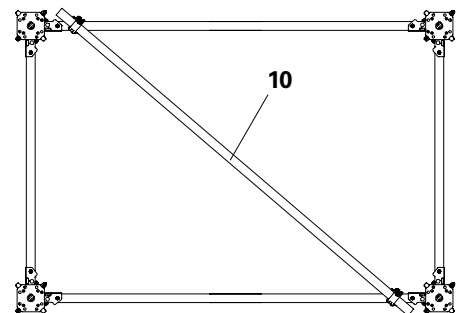

Fig. A3.05
- For towers with heights > 7.0 m, a scaffold tube with a diameter of 48.3 x 3.2 as horizontal diagonal (10) is to be attached to the Frames MRK by means of swivel couplings at about half the tower height to ensure the cross-section shape. (Fig. A3.05)
1. Brace the tower in the centre with horizontal diagonal, see fig. A3.05.